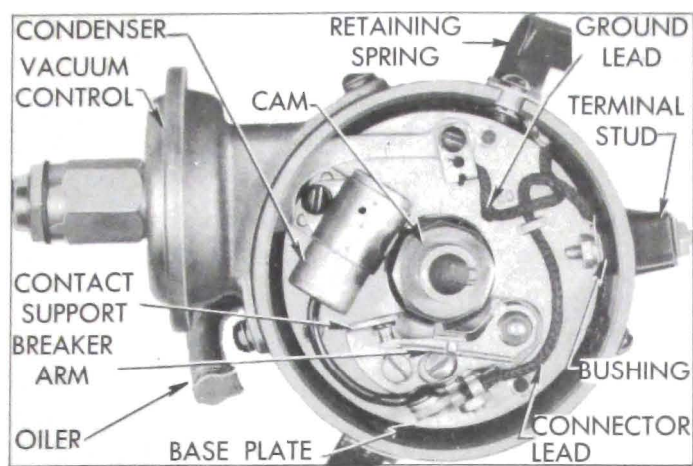

Figure 10-57—Distributor Parts
4. Remove rotor and breaker plate ground lead, then remove the vacuum control and gasket. See figure 10-57.
5. Install terminal stud and bushing, and attach connector lead to stud. See figure 10-57.
10. If indicator reading is not within specified limits, slightly loosen contact support lock screw and turn eccentric screw to open or close points as required, then tighten support lock screw. See figure 10-57. **NOTE:** *Since point opening decreases as rubbing block wears, always set new points as close to high limit as possible.*